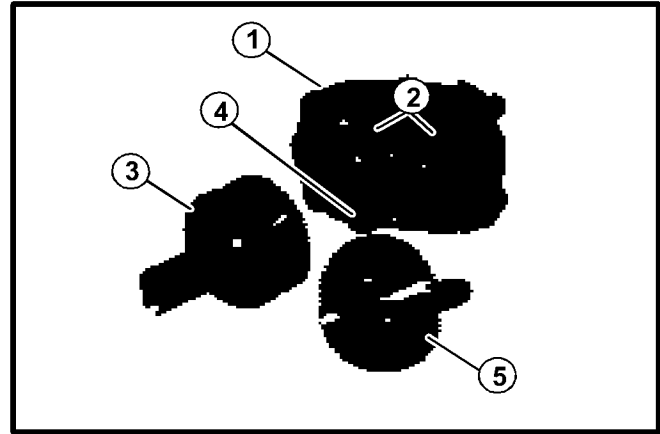

FIGURE 19
4. Remove both the input and output shafts (with gears) from the case halves (See FIGURE 19). Note the position of the spacer at the end of the output shaft for reassembly.